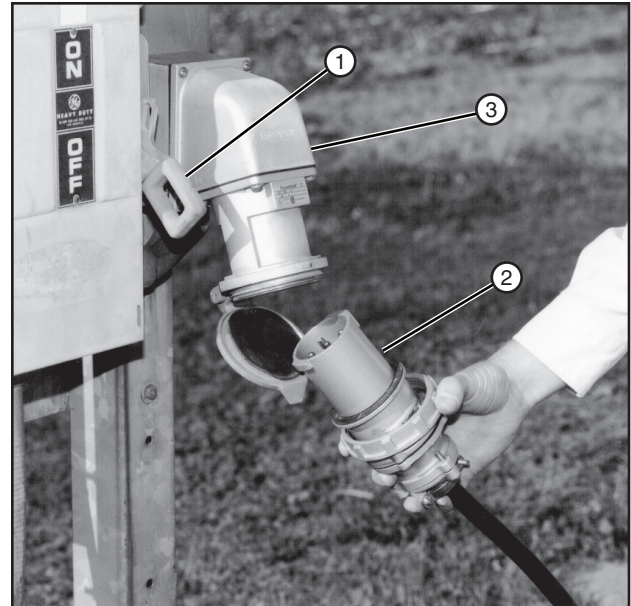

Figure 63-1 1. Service Disconnect - OFF
25. With the service disconnect in the OFF position, plug the power plug into the receptacle. See Figure 63-1.